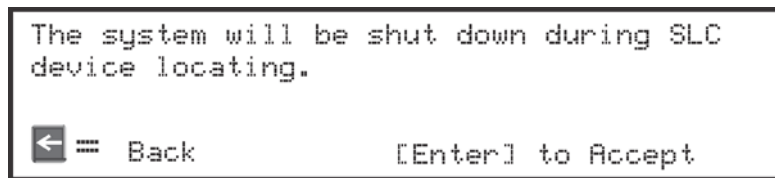

Figure 13.2 Shut Down Warning
- A message similar to the one shown in Figure 13.2 will display.